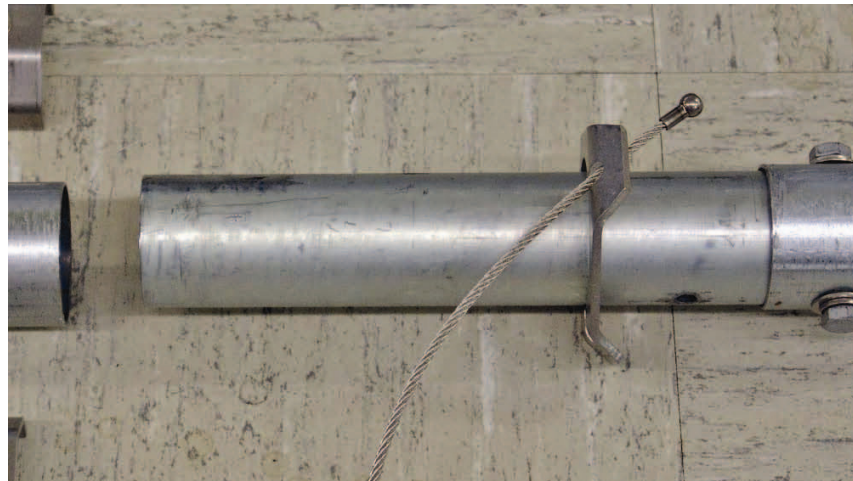

FIGURE 2.2-10. Guy Cable Inserted into Guy Ring
Step 9: Place ball end of each guy cable into its slot in the guy ring and place guy ring into coupler of Section 3 (see Figure 2.2-10).